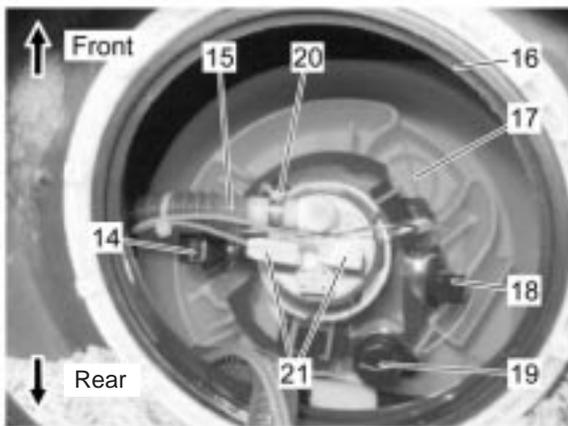

Fig. 14
- Push the new pump with sleeve (23) into the bracket (25).
- ☞ For details of the correct fitting position, see → fig. 14.